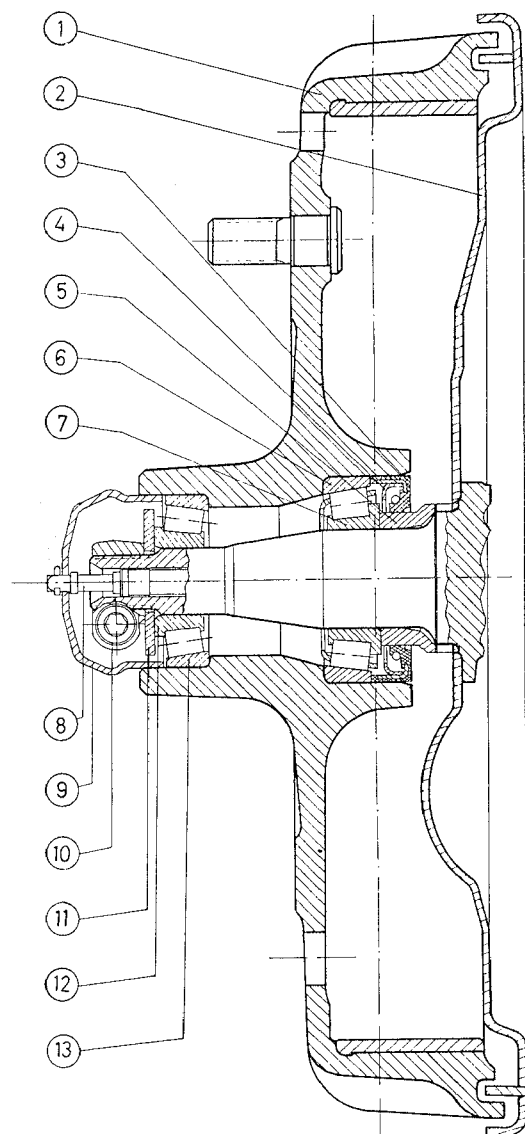

Fig. 13
8. Place brake drum in position and insert on stub axle by means of clamping nut. Take care that outer bearing is correctly seated. (see fig. 13).